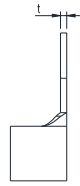

Figure 2.
- Figure 2 shows the specification of insulated heat shrink tubing that comply with UL (600V, YDPU2).